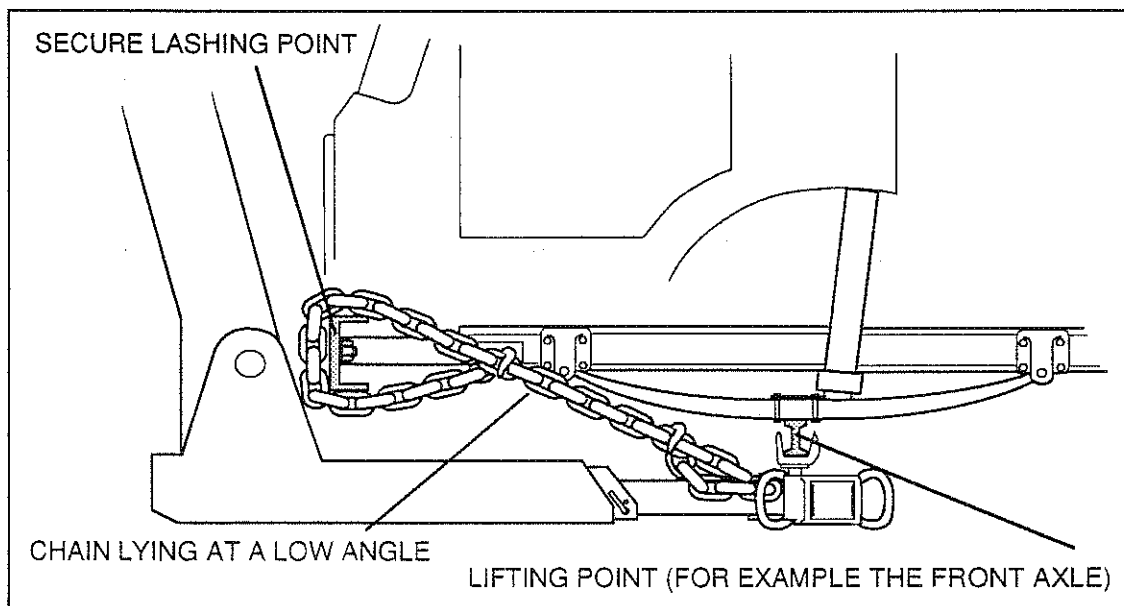

Figure 10 - Restraint against overrun
- 3.3.3 When braking occurs, there is a tendency for the casualty to ride forward. Chains to restrain this potential movement should be laid between the crosshead and some strong point on the vehicle. See Figure 10. The tension in the chains should be firm, but not bar-tight. This can be achieved by slight adjustment of the boom extension facility. If the lashing chains are at too steep an angle, they would suffer periodic slackening and